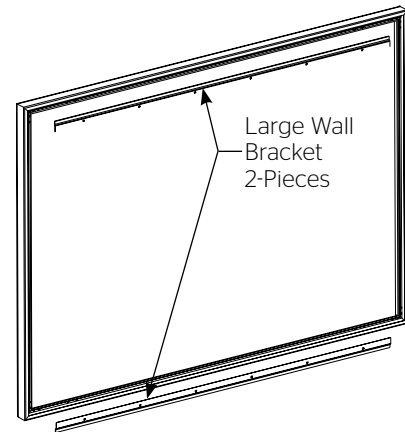

Figure 5
1. Secure the large wall bracket to wall studs at the desired height. Make sure the large bracket is level. The top of the frame will be $1/8"$ above the top of the large wall bracket when mounted. You will need at least $5/8"$ clearance above the bracket to hang the screen. Figures 5 and 6 show the proper orientation for the supplied wall brackets.